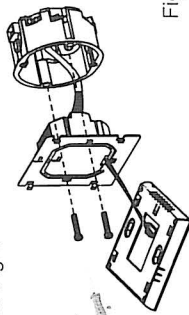

Fig 4
Step 4. Fix the mounting plate into the wall with screws in the box. See Fig 4